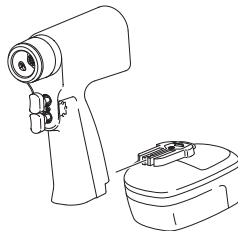

Figure 2 Battery Pack Installation
1. Slide a fully charged battery pack firmly into the handpiece until the battery latch snaps, indicating the pack is secure (see figure 2).